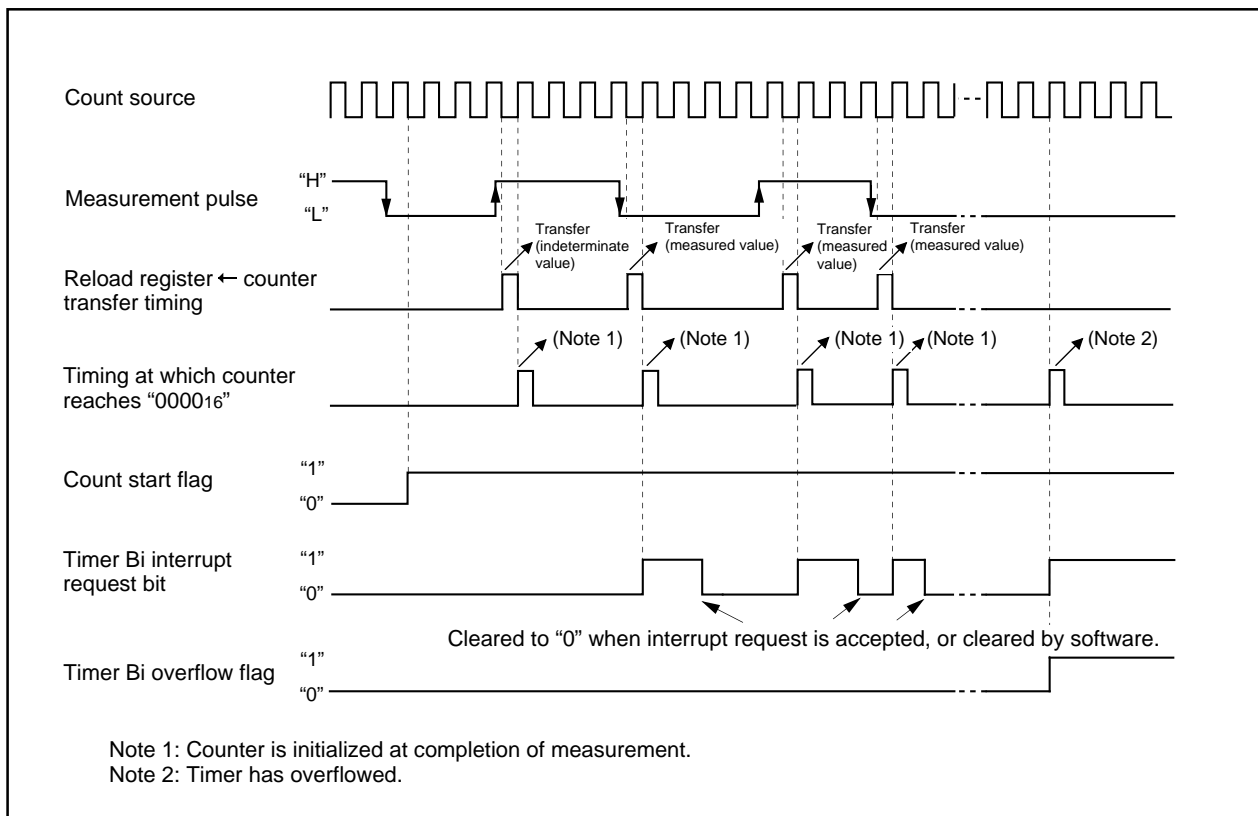

Figure 1.13.23. Operation timing when measuring a pulse width
1.13.22 shows the operation timing when measuring a pulse period. Figure 1.13.23 shows the operation